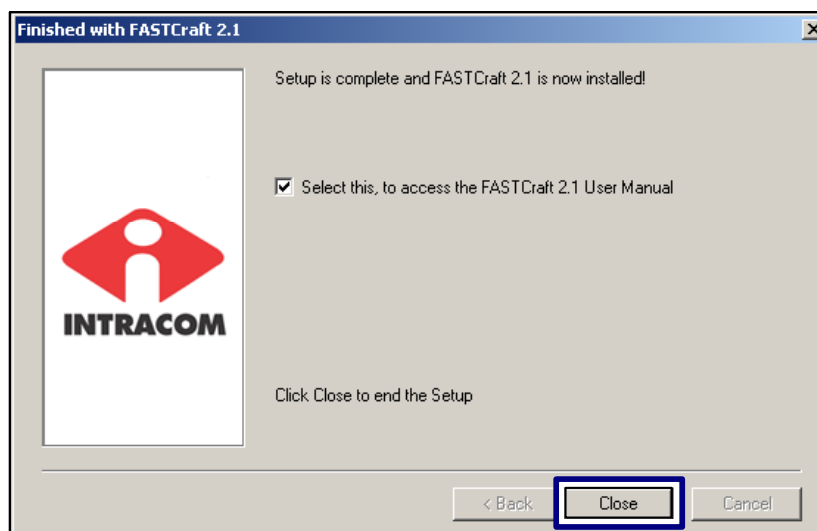

Figure 4 – ‘Finished’ window
- 4** Continue to click **Next** on subsequent screens until the **Finished** window (Figure 4) appears.
- 5** On the **Finished** window (Figure 4), click **Close**.